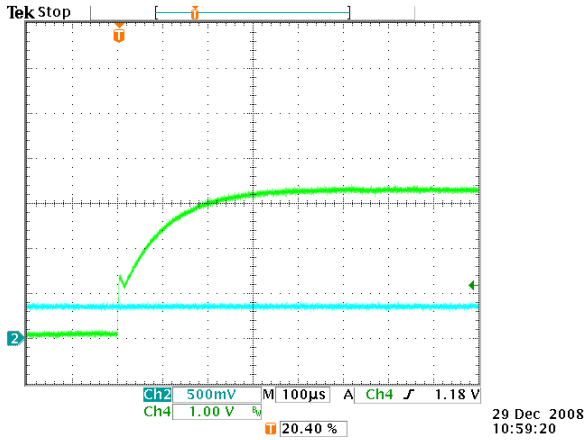
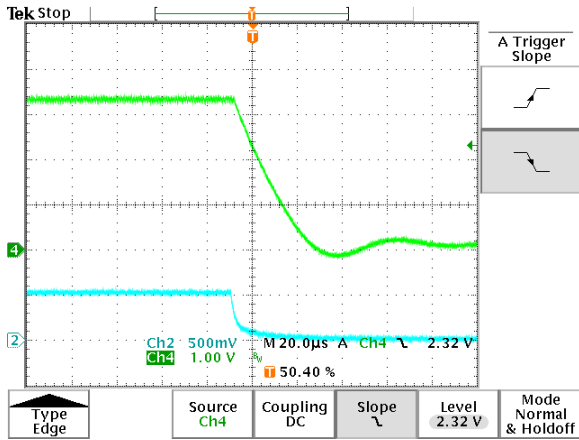

Figure 5 Start Up 36V (Ch4 = Vout 1V/div Ch2 = Vin 50V/div)
Figure 6 Turn Off W/ Enable Strap (Ch2 = ENABLE 5V/div Ch4 = Vout 1V/div)
- 3.7. Increase the input voltage until the voltage reads 36V DC. Observe the turn on characteristics similar to that shown in Figure 5.
- 3.8. Increase the input supply to 48V. Move the positive differential probe to the test point ENABLE and the negative differential probe to SGND. Trigger the scope on the falling edge of ENABLE. Add the ENABLE strap while the unit is running. This should result in turn off of the converter and produce a waveform like that shown in Figure 6. Remove the enable strap and allow the converter to turn back on. Set the load to 18A and configure the oscilloscope for measurement of 50mV/div with a time base set to 1us. Set the trigger value on a positive slope with a value of about 15mV. Make sure that the bandwidth is set to 20MHz. The resulting ripple waveform should look something like that shown in Figure 5.